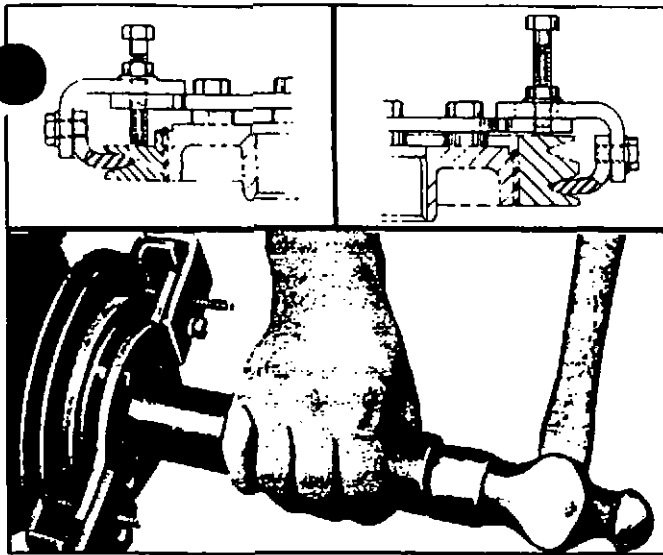

Fig. 11L—Installing Torsional Damper
2. Attach damper installer Tool J-22197 to damper. Tighten fingers of tool to prevent weight from moving (fig. 11L).
3. Position damper on crankshaft and drive into position, using J-5590, until it bottoms against crankshaft gear (fig. 11L). Remove installer tool.